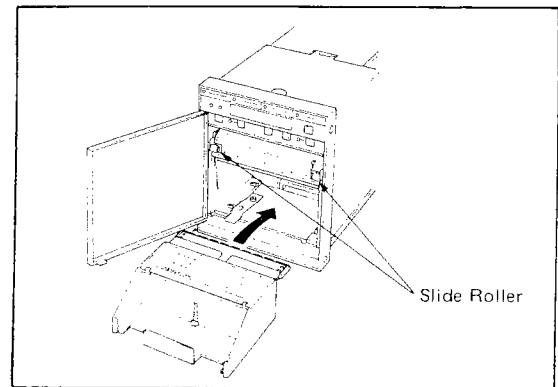

Figure 5-10. Chart Stock Insertion.
- (10) Confirm that the power is correctly supplied to the recorder.
- (11) While lightly pressing the chart stock top cover, gently install the stock in the recorder.
- (12) When the stock is pushed into the recorder until it is locked by the stopper, the slide roller starts revolving and the chart is automatically loaded (see Figure 5-10).
- (13) The chart stops after being fed approximately 150 mm from slide roller.